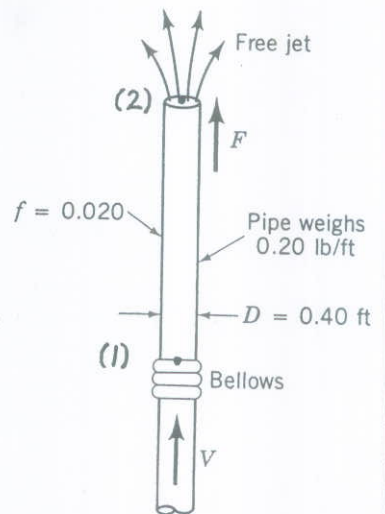

FIGURE P8.98
8.98 Water flows through two sections of the vertical pipe shown in Fig. P8.98. The bellows connection cannot support any force in the vertical direction. The 0.4-ft-diameter pipe weighs 0.2 lb/ft and the friction factor is assumed to be 0.02. At what velocity will the force,  $F$ , required to hold the pipe be zero?